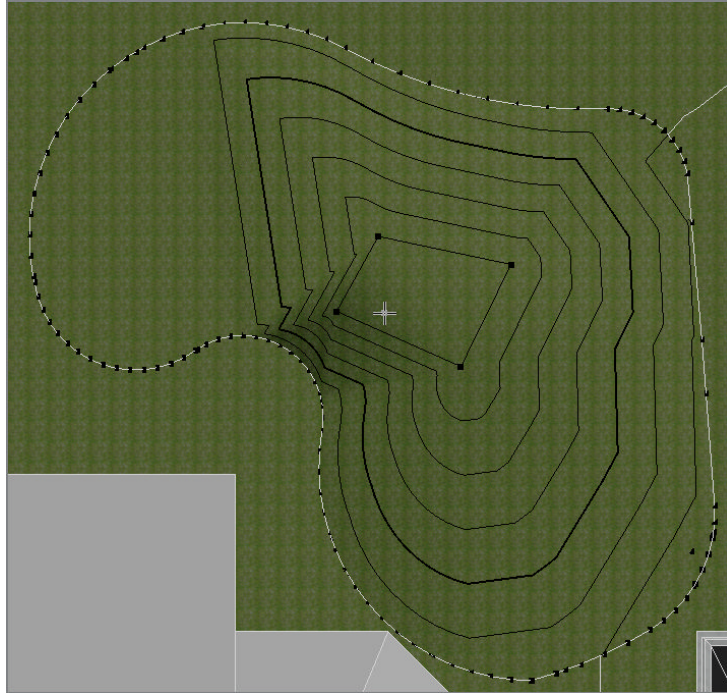

FIGURE 18.8: Adding a new datum elevation
1. Select the newly formed toposurface, as shown in Figure 18.8.
5. Pick four points near the center of the hill (see Figure 18.8).